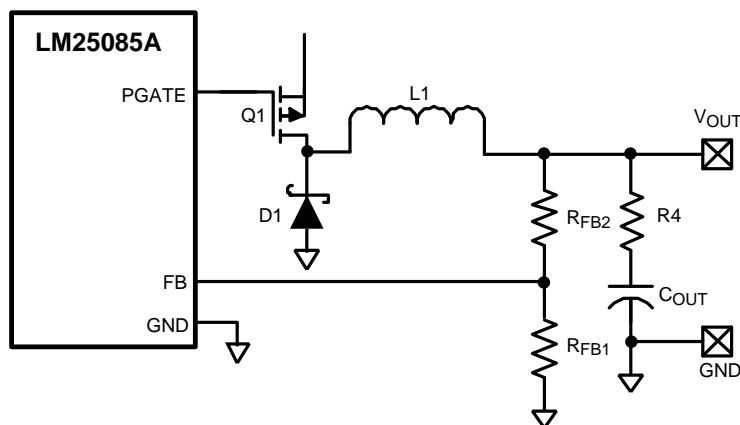

Figure 34. Lowest Cost Ripple Generating Configuration
**b) Lowest cost configuration:** This configuration, shown in Figure 34, is the same as Figure 33 except Cff is removed. Since the ripple voltage at  $V_{OUT}$  is attenuated by  $R_{FB2}$  and  $R_{FB1}$ , the minimum ripple required at  $V_{OUT}$  is equal to: